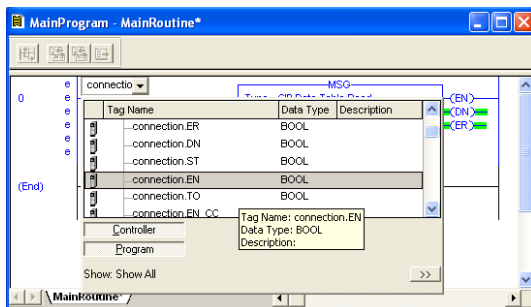

Figure 51: Configure XIO Element
- a) Double-click on the XIO element located to the left of the MSG block. In the drop-down box, double-click on the "connection.EN" field. Refer to Figure 51. This configuration causes the MSG instruction to automatically retrigger itself when it completes. While this is acceptable for the purposes of this example, it can produce high network utilization. In actual practice, it may be desirable to incorporate additional logic elements to allow triggering the MSG instruction at a specific rate or under specific conditions.